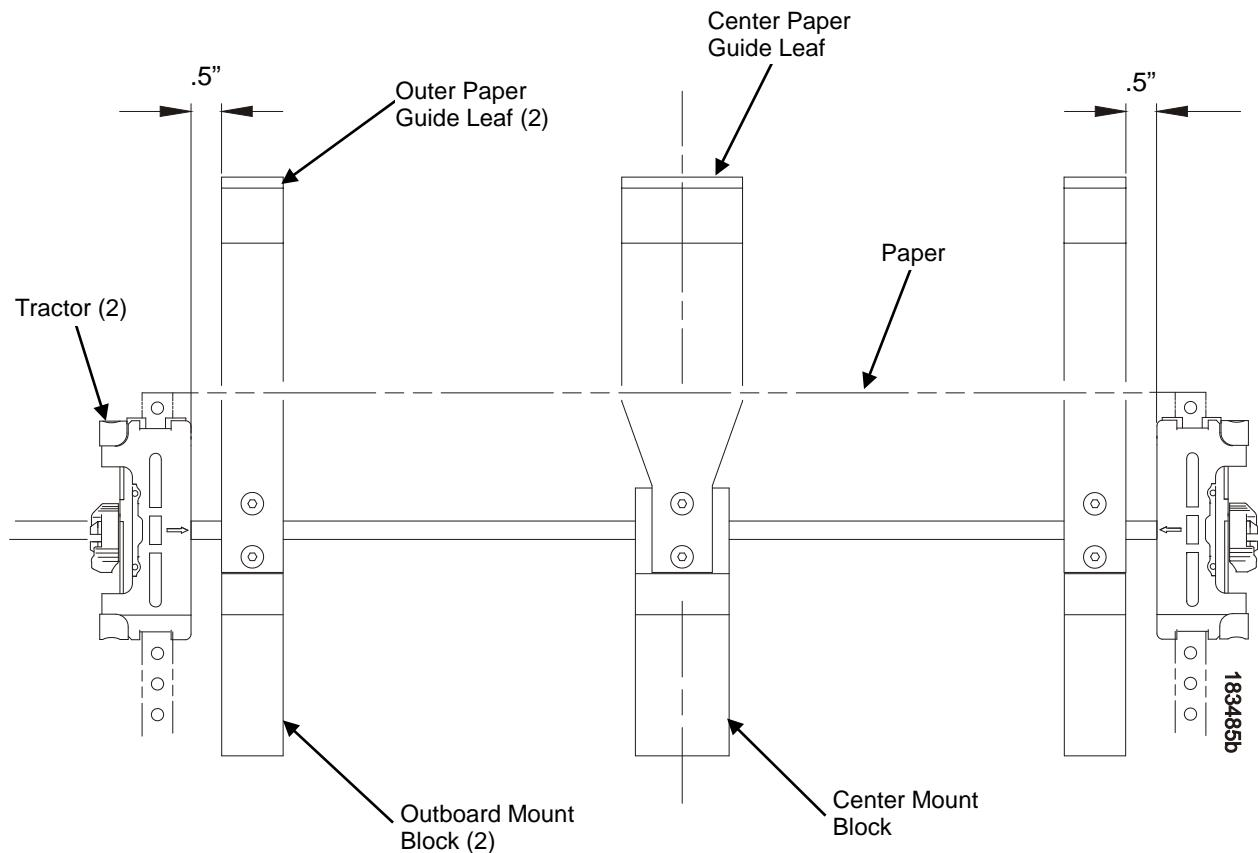

Figure 46 Adjusting Paper Guide Leaves
4. Slide the left outboard mount block so that the left outer paper guide leaf is .5 inches from the left tractor. (See Figure 46.)